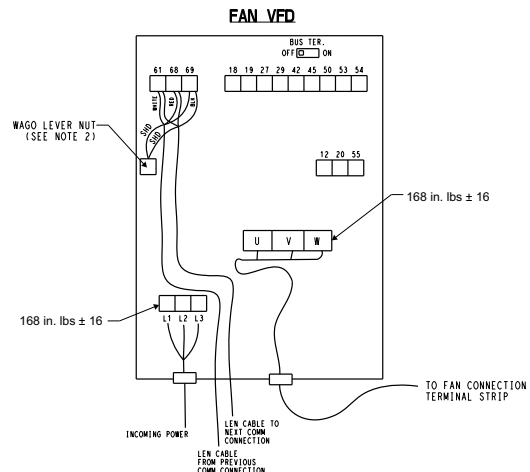

Fig. 79 — Fan Drive Wiring
5. Connect power and LEN communication wiring to the drive. For wiring details for fan drives, see Fig 79. Use the same knockout openings on the new drive as on the drive being replaced. Torque connections are 16 ft-lb for lug terminals.
- a. Using the display interface on the VFD drive, select Main Menu with the Menu button. Navigate to menu item 8-30 and confirm that the LEN option is selected. Using the up/down arrows and OK button, follow the following path: **8-** (Command Options) → 8-3* (FC Port Settings) → 8-30 (Protocol)**. If LEN is not selected, press the OK button and use the arrows to scroll through the options and select it. If no LEN option appears, LEN communication is not enabled on the drive. Follow the process described in the next section, Enable LEN Communication, and then complete the remainder of this addressing procedure.
- b. Navigate to menu item 8-31 on the VFD display and enter the address for the drive being configured, using the following path: **8-** (Command Options) → 8-3* (FC Port Settings) → 8-31 (Address)**. Press the OK button and use the up/down arrows to select the drive address. Set the address to 184.